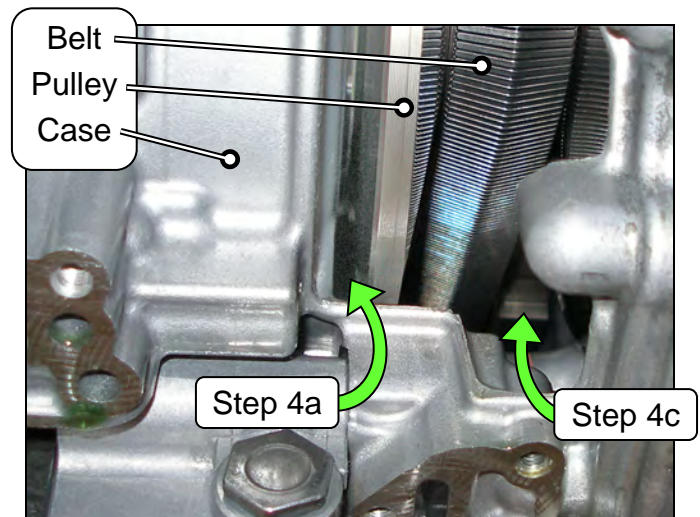

Figure 10
- a. Insert the camera lens between the CVT case and pulley where shown in Figures 10 and 11.
- Insert the lens approximately seven (7) inches, and then view the side of the belt that contacts the pulley.
- Insert the camera lens in the second location where shown in Figures 10 and 13, and then perform step 4b again.